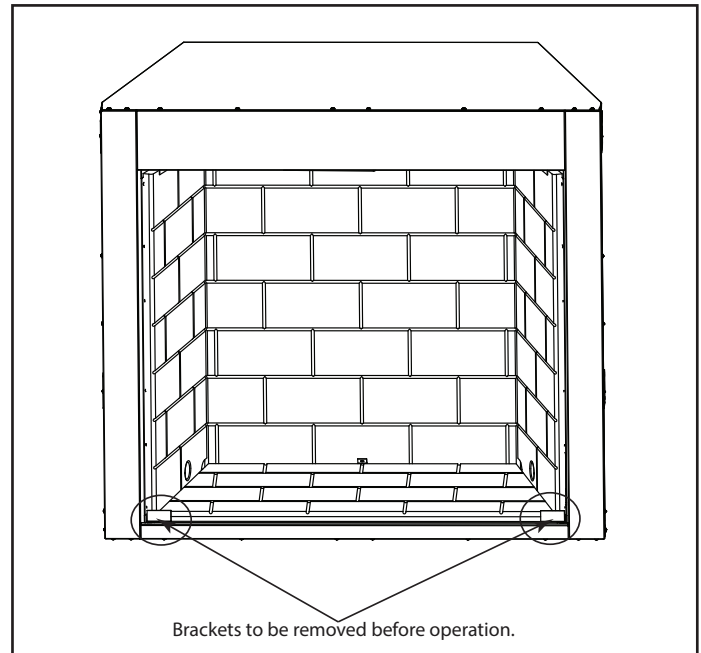

Figure 9.1
**NOTE:** Brackets located on top and bottom of side panels remain in place. See Figure 9.1.